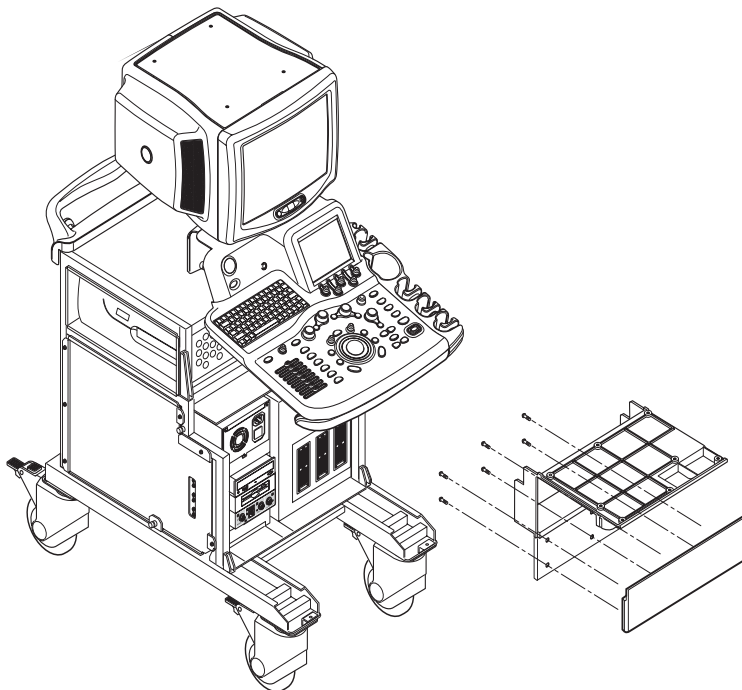

Figure 8-65 Remove the OP Curtain Cover
9.) Remove the OP Curtain Cover. Refer to Figure 8-65 on page 8-49 .